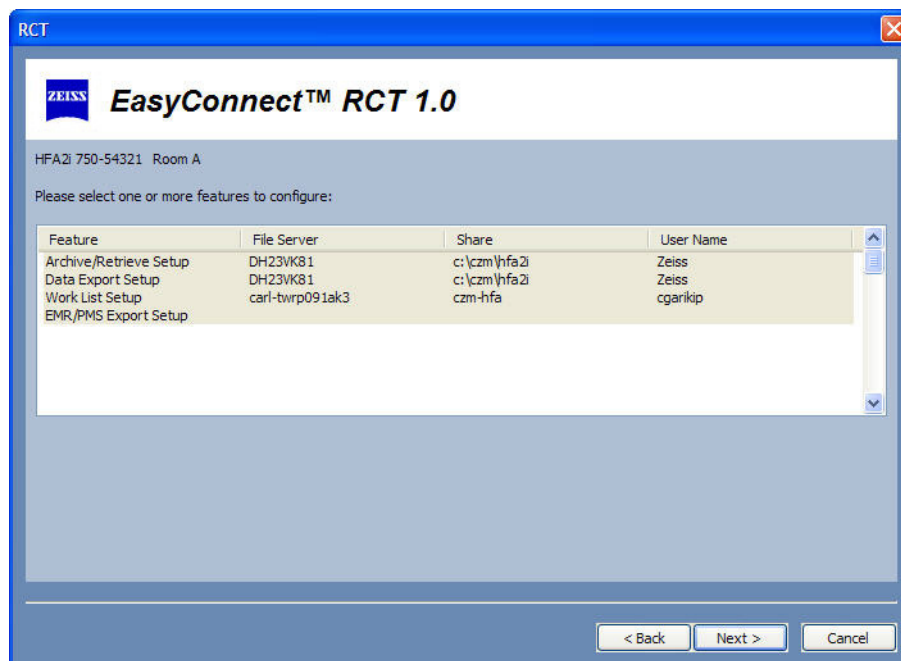
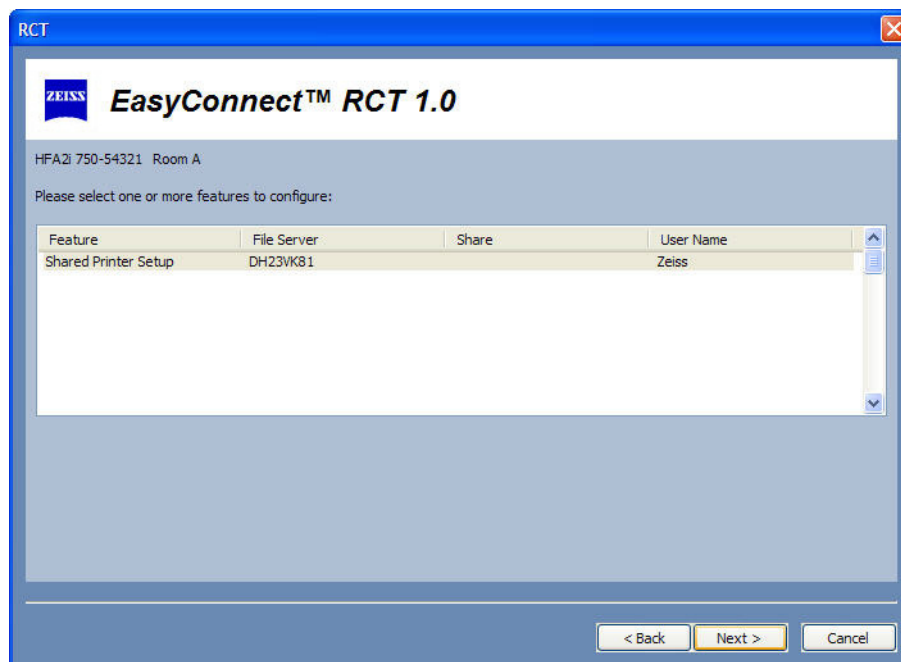

Figure G.28 List of Configurable Features (Shared Folder)
Figure G.29 List of Configurable Features (Shared Printer)
- 5 The RCT will display a list of configurable features for the first selected instrument (Figure G.28 and Figure G.29). This list is restricted to those of the previously selected setup type—shared folder or shared printer.